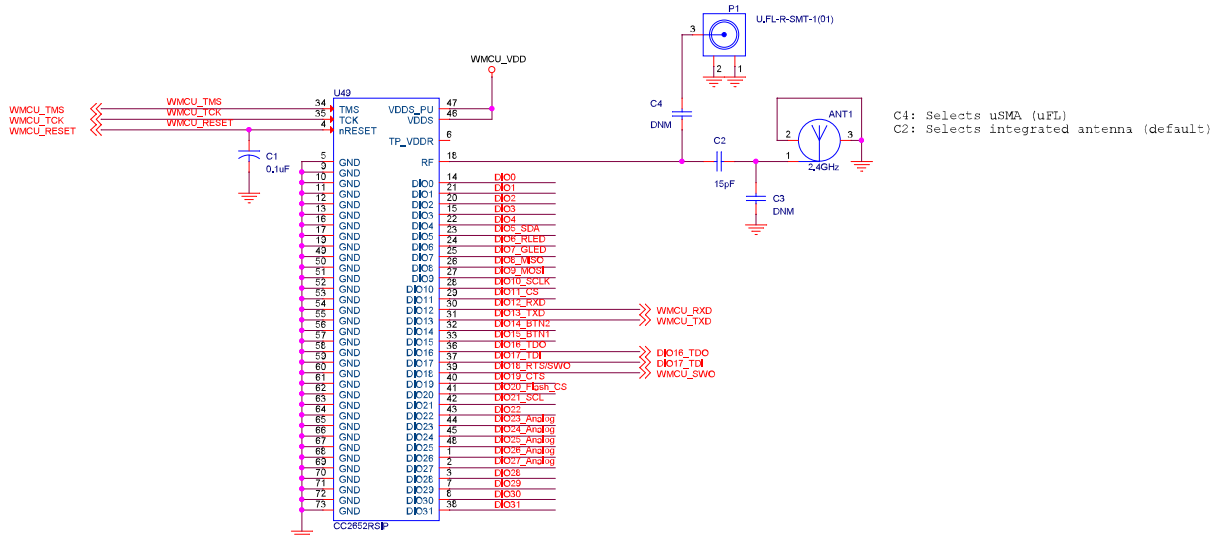

Figure 10-1. CC2652RSIP Typical Application Schematic
Figure 10-1 shows the typical application schematic using the CC2652RSIP module. For the full reference schematic, download the LP-CC2652PSIP Design Files.
Table 10-1 provides the bill of materials for a typical application using the CC2652RSIP module in Figure 10-1.
In order to meet the module power-on-reset requirements, an external 0.1 μ F capacitor is required on the nRESET pin during power ON. In addition, VDDS (Pin 46) and VDDS_PU (Pin 47) should be connected together. If the reset signal is not based upon a power-on-reset and is derived from an external MCU, then the external capacitor will not be needed and VDDS_PU (Pin 47) should be No Connect (NC). Please refer to Figure 10-1 for the recommended circuit implementation and Table 10-1 for the recommended 0.1 μ F capacitor.